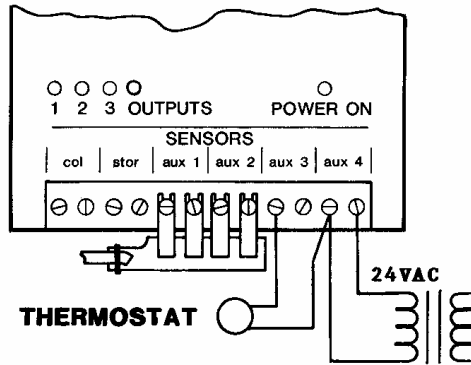

FIGURE 12
**QC-1 SETUP:** Connect QC1 per fig. 12
The following test checks output 3 operation. To perform this test, the thermostat input and 24Vac transformer must be connected to the C120 as shown in figure 12.